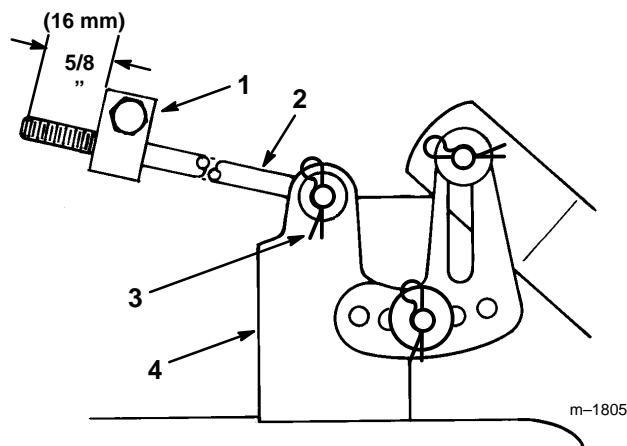

Figure 49
6. Measure the length of the rod extending out the front of the adjusting block on the sides of the chassis (Fig. 49). If the rod length is not 5/8" (16 mm), remove the hair pin cotter and washer from the end of the rod (Fig. 49), and turn the rod until the 5/8" (16 mm) dimension is obtained. Then install the end of the rod into the hole in the mower mount and secure in place with washer and hair pin cotter. Repeat this procedure on the opposite side of the mower.